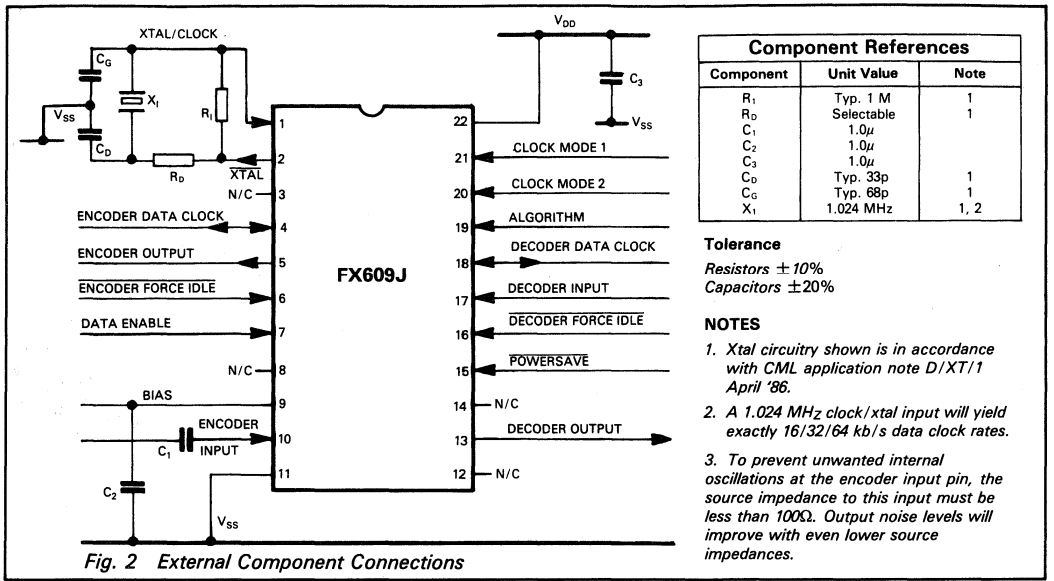

Fig. 2 External Component Connections
**Xtal/Clock:** Input to the clock oscillator inverter. A nominal 1.024MHz xtal input or externally derived clock is injected here. See Fig. 2.
**Encoder Input:** The analogue signal input. Internally biased at  $V_{DD}/2$ , an external 1 $\mu$ F input coupling capacitor,  $C_1$ , is required on this input. See Fig. 2 Note 3 for source impedance details.